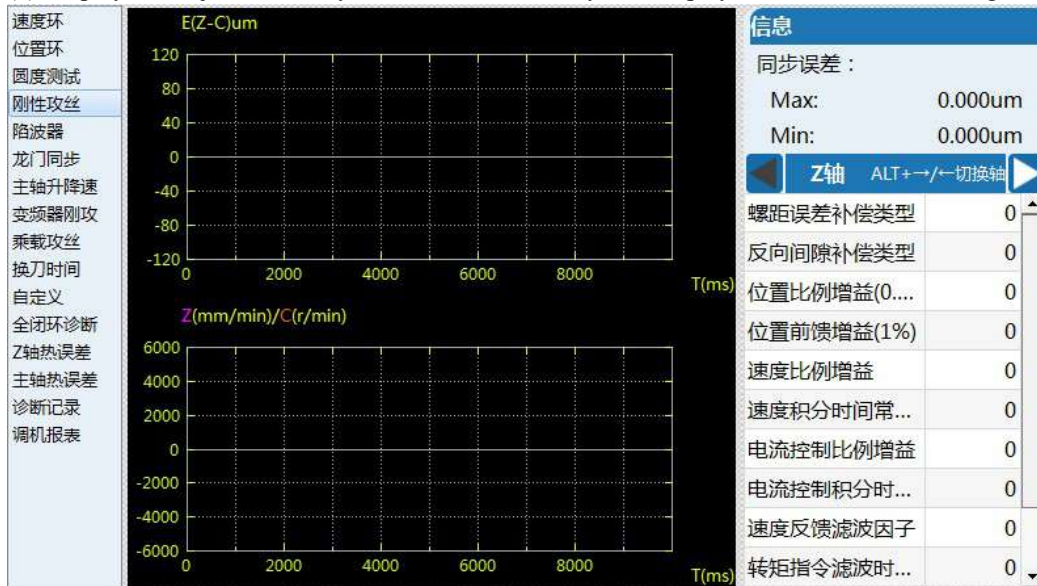

Fig. 6
(3) Display and adjustment of synchronous error. The system display interface is shown in Fig. 6:
Fig.6 displays synchronous error  $E$  (Z-C)  $\mu\text{m}$  of tapping interpolation axis and speed of interpolation axis as well as servo gain parameter of interpolation axis, acceleration/deceleration time constant and jerk time constant. Increase or decrease gain of Z axis and C axis based on  $E$  after tapping program is executed and the system will give a prompt message in the interface. Normally,  $E$  value should be limited to  $\pm 20\mu\text{m}$ .